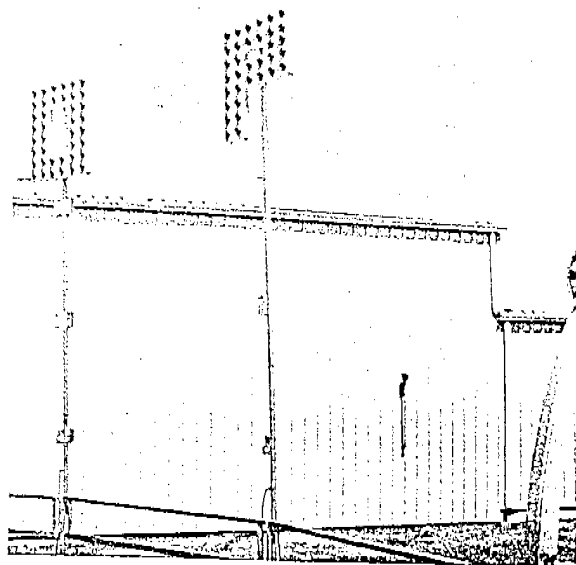

Fig. 39
- b. Slide the legs of the letter support stands in the outside sockets at the tops of the vertical bars of the walkway support frame sections. (Fig. 39)